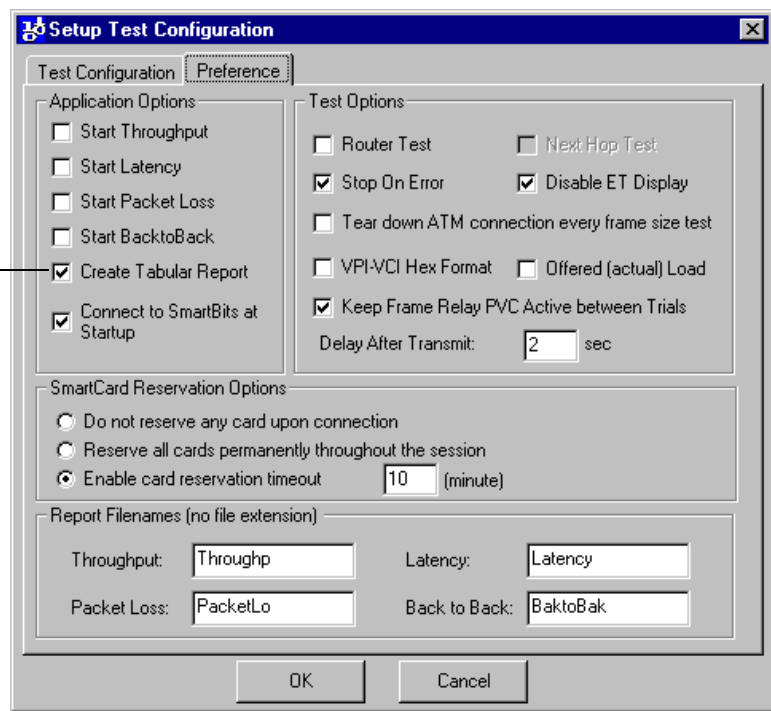

Figure 6-2. Specifying the Non-tabular Report Format
- Select **Setup > Test Configuration** from the main menu (see *Figure 6-2 on page 131*).